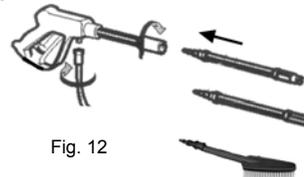

Fig. 12
3. Once the high pressure hose is connected to the trigger gun, you can attach any of the lances and accessories that you desire. To attach either of the lances or the brush to the trigger gun, hold the trigger gun in your left hand insert the desired lance or the brush and push it in all the way into the connector on the trigger gun and turn it clockwise 60° until it locks in place. To remove the attachment, push down on the attachment and turn counter-clockwise 60° and then pull out. Make sure that the attachments are securely locked in place before use. (Fig. 12)